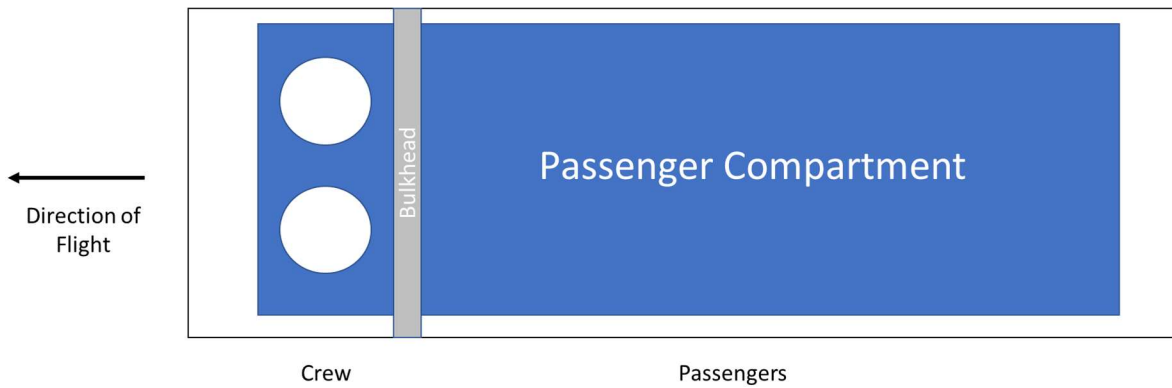

Figure 5. Urban Taxi Mission Layout.
- The Passengers must be placed in the passenger compartment as shown in Figure 5. The Passengers cannot touch each other or any part of the airplane other than the floor and restraints system or insert(s).